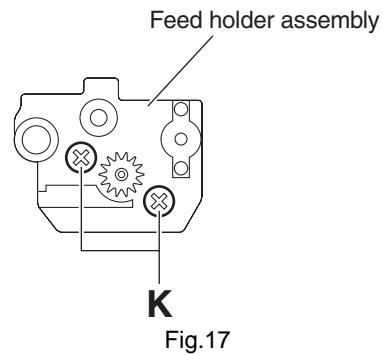

Fig.17
- (5) Remove the two screws **K** attaching the feed motor. (See Fig.17.)